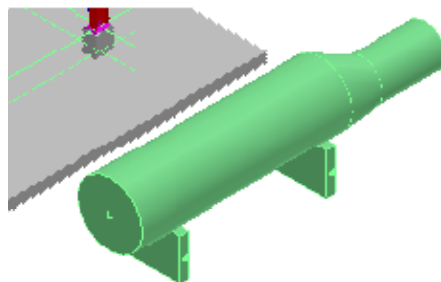

Figure 25: The Equipment Object Mounted on Two Rectangles
23. Repeat steps 21-22 with the same dimensions and the coordinates as **18 ft for E**, **0 ft for N**, and **-2 ft for E1** to place the second rectangle beneath the equipment object **E-102**. Figure 25 shows the equipment object mounted on the two rectangles.